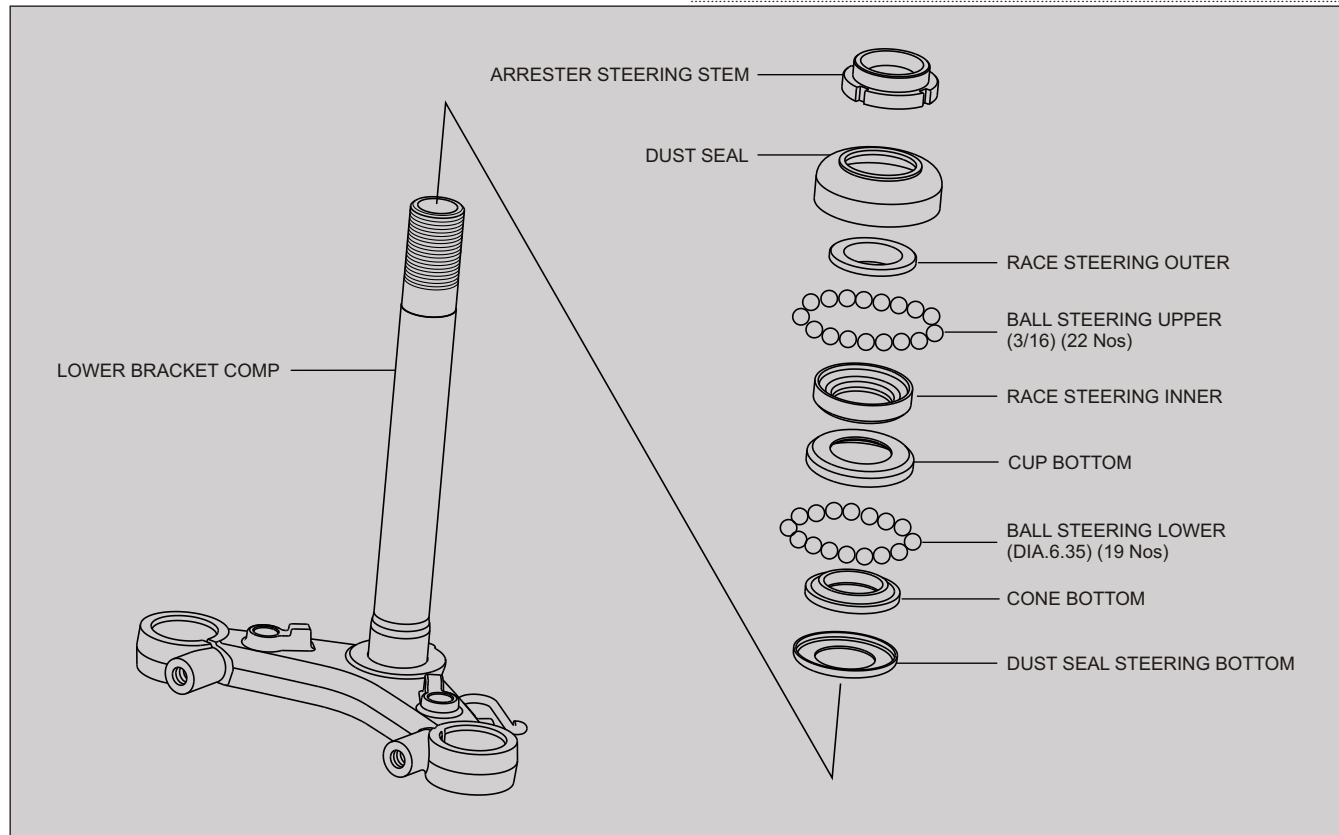

Fig. 6.66
- Refer lower bracket complete exploded view (Fig. 6.66) for assembly details.